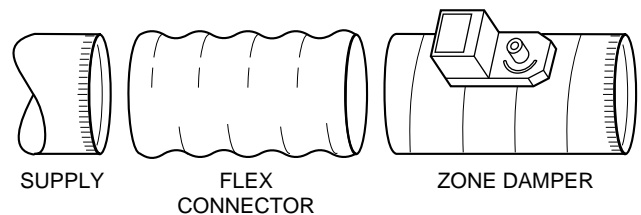

Fig. 8—Round Metal Duct Work
2. Slip end of zone damper over end of duct work. Use self-tapping sheet metal screw to secure. (See Fig. 8.)